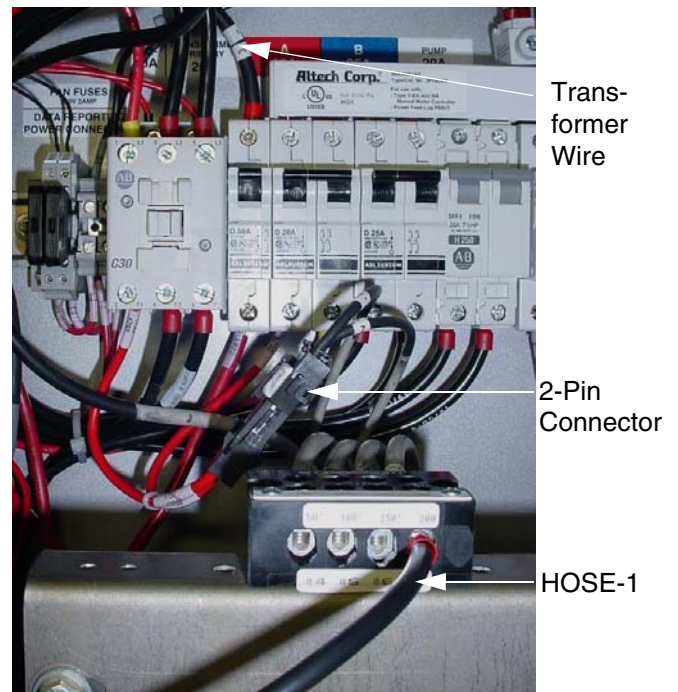

FIG. 23
14. Connect wire HOSE-1 to transformer using highest tap setting. Depending on transformer unit, wire will be in either #7 or #9 connection. Tighten wire. See FIG. 23.